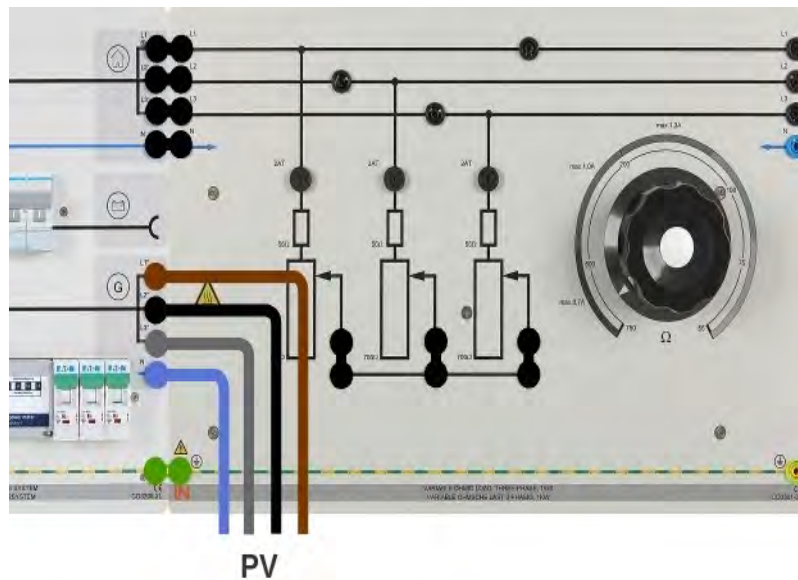

Figure 17
1. Re-insert the jumper of the neutral point on the variable resistance as seen in Figure 17.